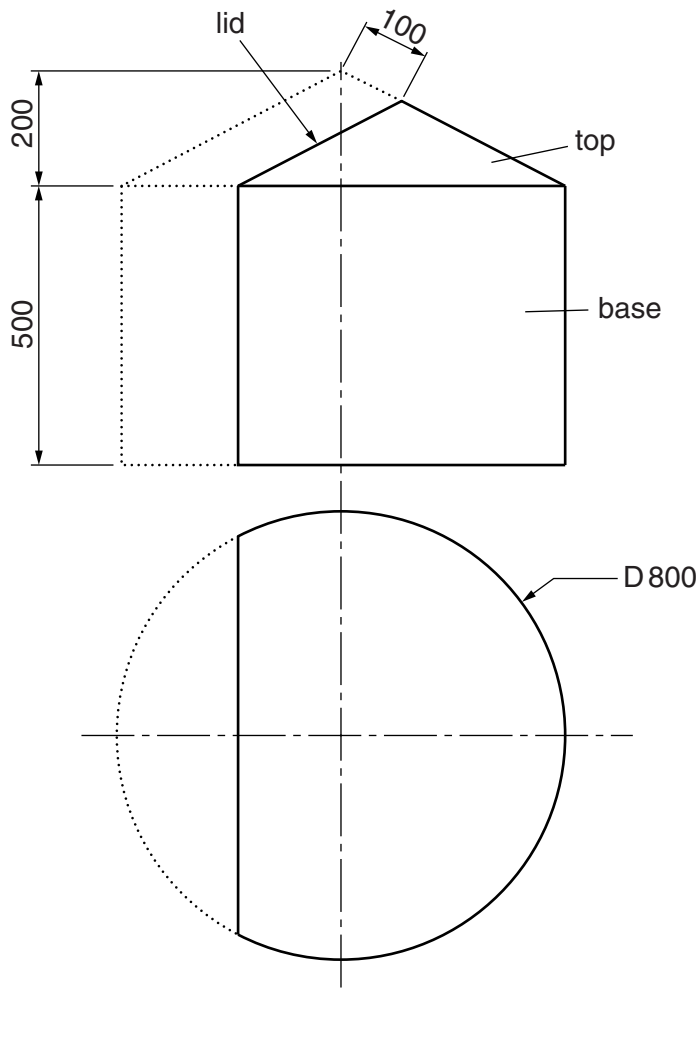

Fig. 6
- 9 Fig. 6 shows incomplete orthographic views of a paper recycling bin.